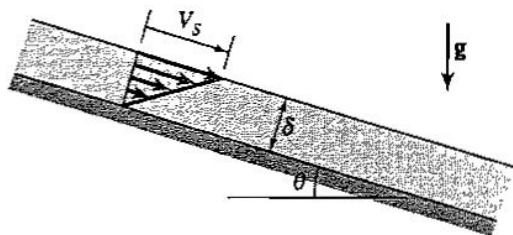

Figure P9.11
9.11 Consider the two-dimensional, laminar, fully developed flow of water of depth δ down a plane inclined at an angle θ to the horizontal, as shown in Figure P9.11. The velocity profile may be assumed to be linear, and the velocity at the free surface is V_s .